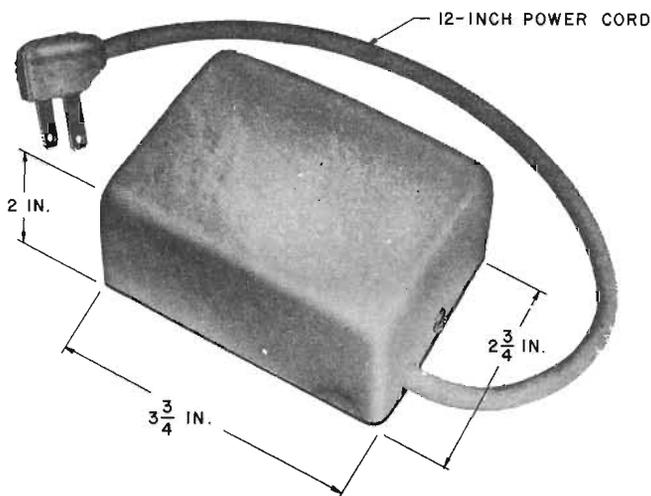

Fig. 1 - J87202A, List 1 Rectifier
2.01 The rectifier (Fig. 1) is a compact unit designed to convert 117 volts 60 cycles ac to +12 volts and +30 volts dc.